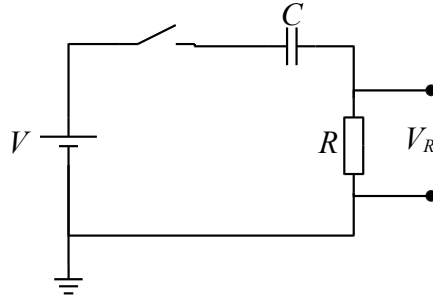

Figure 3 The setup to measure the time response of an RC circuit.
**Voltage across the resistor.** Investigate the output characteristics of the circuit shown in Figure 3. In order to observe the complete transient response, you want to apply a step voltage and then hold this applied voltage for a time that is long compared to  $\tau_{RC}$  (i.e., until the transient has died away). A ‘transient’ is a temporary signal which exists as a system moves from one stable mode to another. In this case, the transient exists as the system moves from an uncharged capacitor and zero applied voltage across the capacitor to a constant applied voltage and a steady charge on the capacitor.